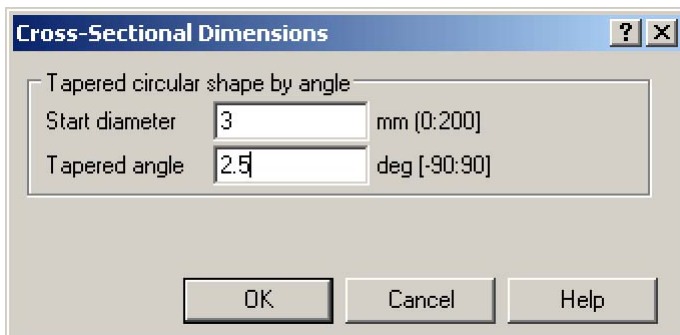

Figure 422: Cross-sectional dimensions
- Tapered by angle, shown in Figure 422.